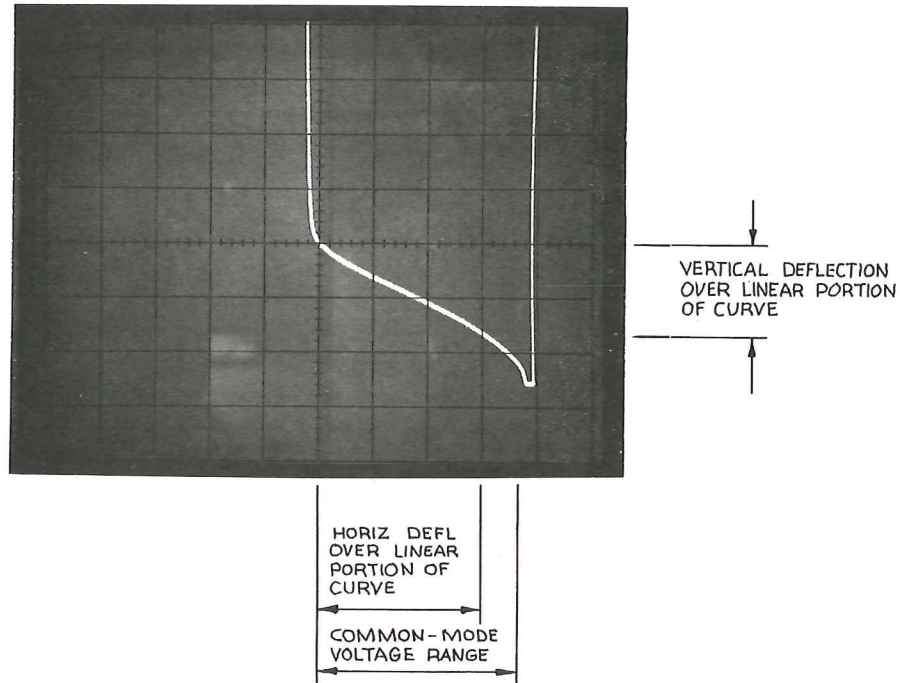

Figure 10. Typical display of common-mode range.
- Increase SWEEP AMPLITUDE until display indicates maximum swing of common-mode voltage; see Fig. 10.